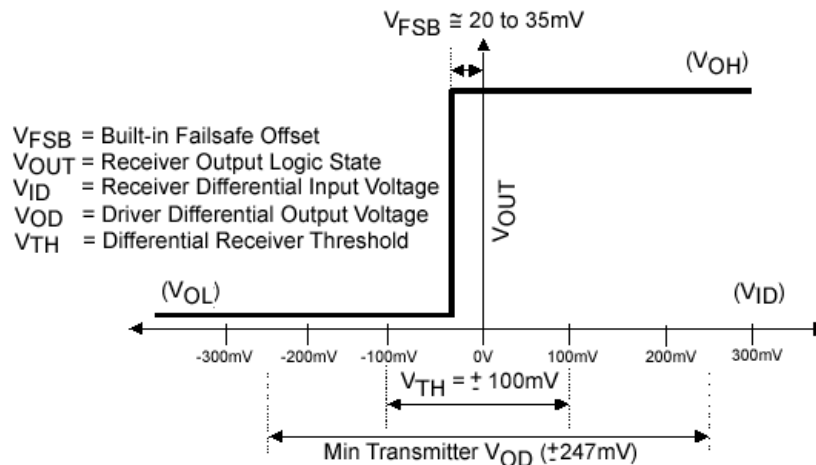

FIGURE 1. Differential Input Voltage versus Receiver Output Voltage
For Fairchild LVDS receivers designed with an internal failsafe bias, they typically will have an internal bias voltage of ≈ 20 to 35mV (Figure 1). In a cable application where the receiver will not always be driven by the transmitter and there is a potential for the presence of more than 20mV of
differential noise on the receiver inputs, additional failsafe resistors should be considered. The resistor values should be specified to overcome the differential noise and have minimal impact on the driver current. Figure 1 illustrates a typical differential input voltage versus the logic output state of the receiver.
1. Reviewing the circuit in Figure 1, with the driver card powered down ($V_{CC} = 0V$), the ESD protection diode network on the driver card is forward biased. This results in a clamping action of the diodes providing an alternate current path reducing the offset voltage created across the termination. The diodes forward bias causing an approximate worst case clamping of the line at $\pm 0.3V$ with respect to ground.